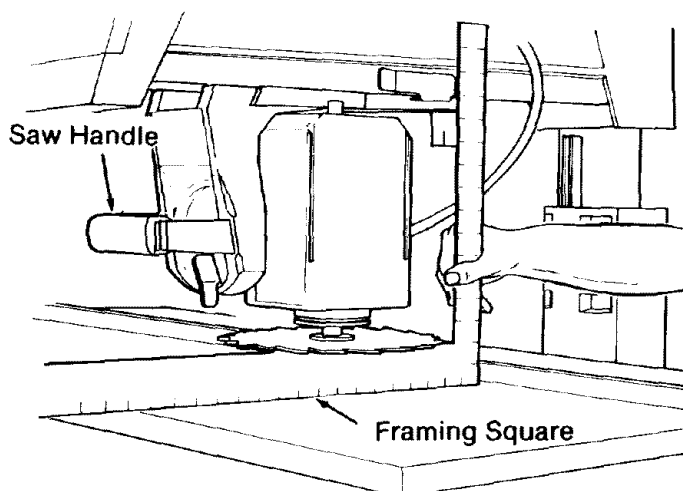

Fig. 94
5. Place the corner of the framing square against the *fence* so that the long edge is on the *table* under the *blade* and the short edge is sticking up in the air. Make sure that the long edge is perpendicular to the *fence*. (Figure 94)